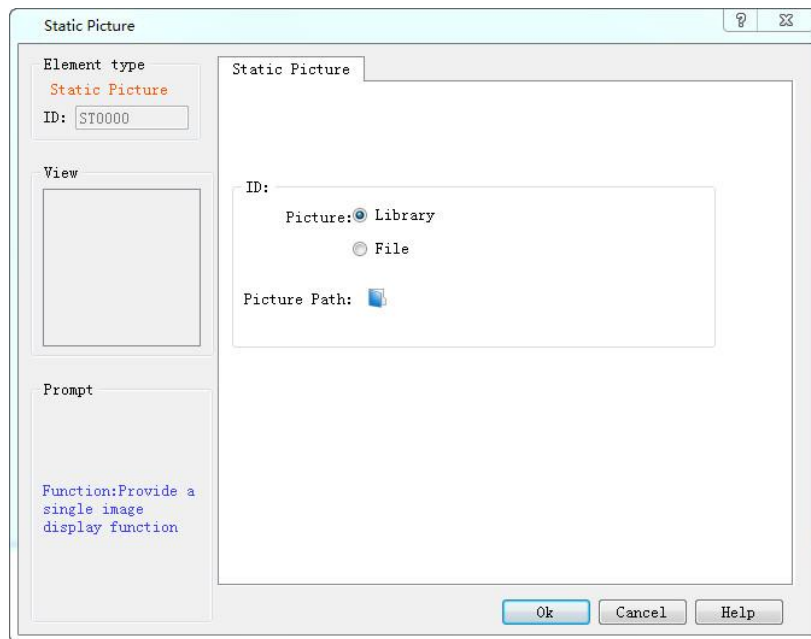

Figure 4-109 Static picture dialog box
1. Click on the static picture icon  on the toolbar to pop up a dialog box as shown in Figure 4-109: